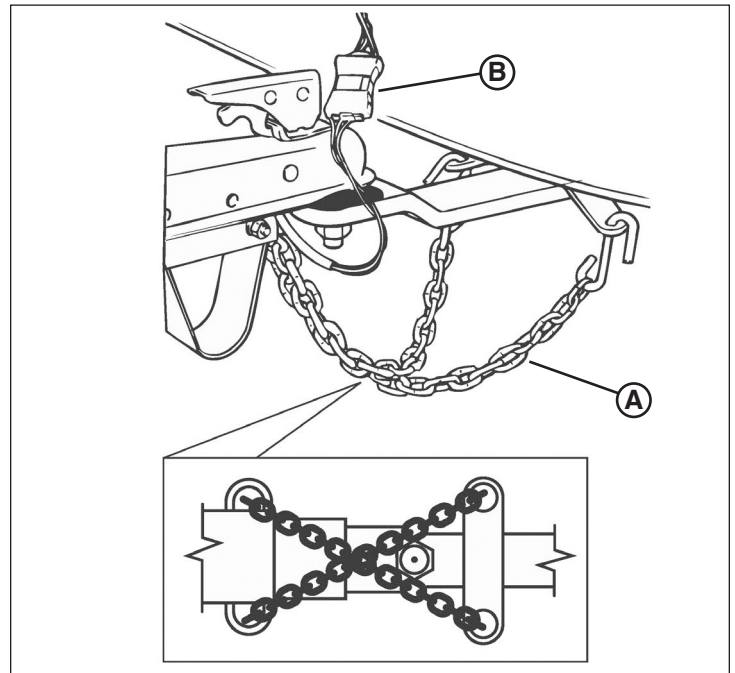

Figure 5
7. Attach the safety chains (A, Figure 5) to the tow vehicle's hitch frame. Cross the chains under the tongue as shown. Leave enough slack in the chains to allow for turns, but not so much that the chains will contact the road surface.
8. Connect the trailer lighting connector (B, Figure 5) to the tow vehicle lighting connector. Make sure the trailer lighting harness has adequate length to prevent disconnection when turning, but not so much length that the harness will contact the road surface. Once connected, check the stop, turn signal, tail, side marker and license plate lamps for proper operation.